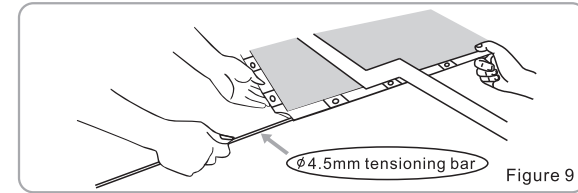

Figure 9
5. Unfold screen fabric and insert 4 tensioning bars separately into 4 different fabric grooves, be careful not to poke the fabric. (Note: better to do this step with two people. Figure 9)